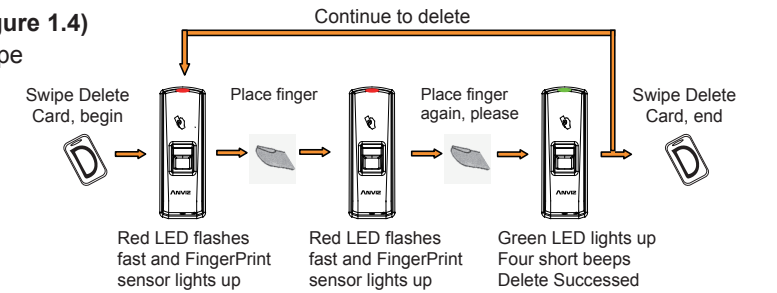

Figure 1.4
- Delete fingerprint only: (Operation Steps show as figure 1.4)**